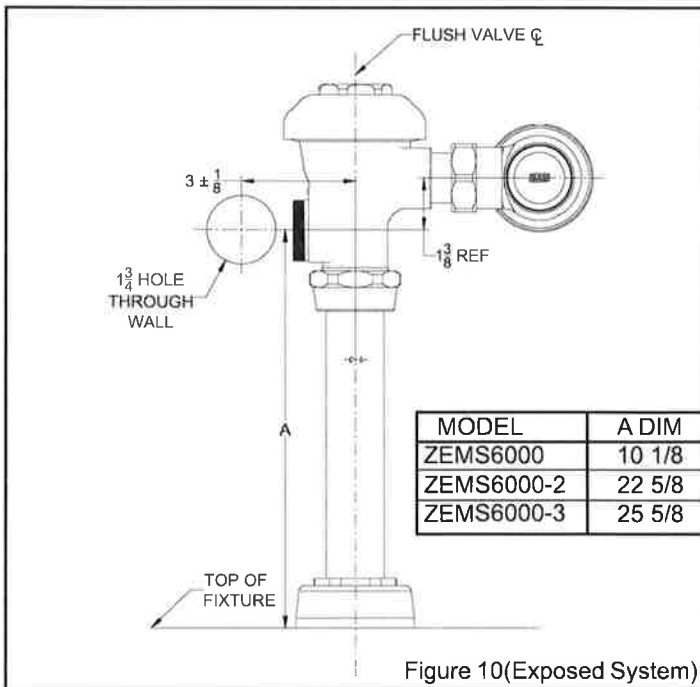

Figure 10(Exposed System)
1. Drill 1-3/4" diameter hole per Figures 10 or 11.